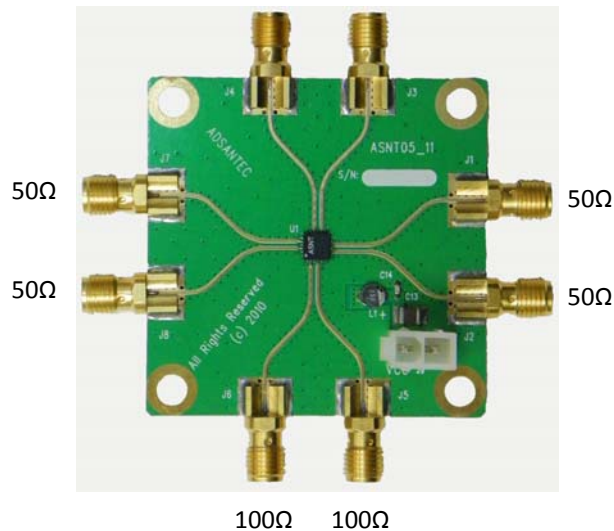

Fig. 5. Impedance of I/O Connectors
- Measure the resistance of all connector pins to VCC, including the power supply, while making sure the board is grounded. All high speed I/O ports should measure 50Ohms while on the power supply connector, VCC should be a short, and GND should be high impedance. icntp/icntn should measure 100Ohms. Fig. 5 shows the resistance values of the described I/O connectors.